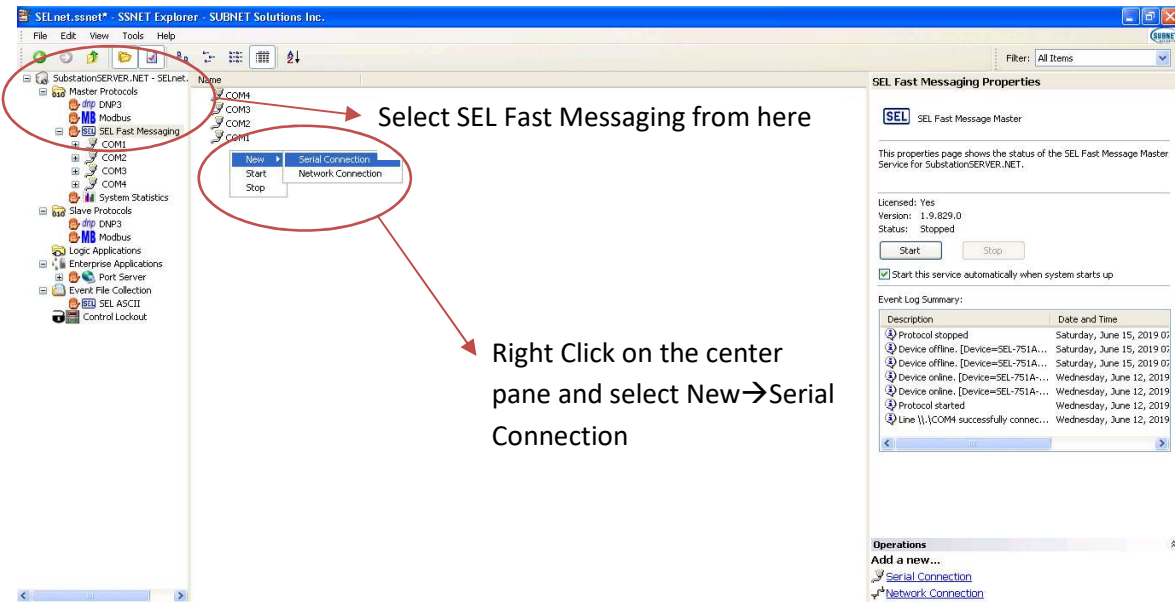

Figure 4.11 Defining new COM port under SEL Fast Messaging
- 3) The next step is to define a new COM port under Enterprise Application → Port Server → Terminal Server. This can be done directly, however, in case of SEL devices it is more convenient to use Online Relay Wizard under SEL Fast Messaging. From the left pane select, Substation SERVER.NET-SELnet.ssnet* → Master Protocols → SEL Fast Messaging. Right Click anywhere on the center pane and select New → Serial Connection as shown in Figure 4.11.